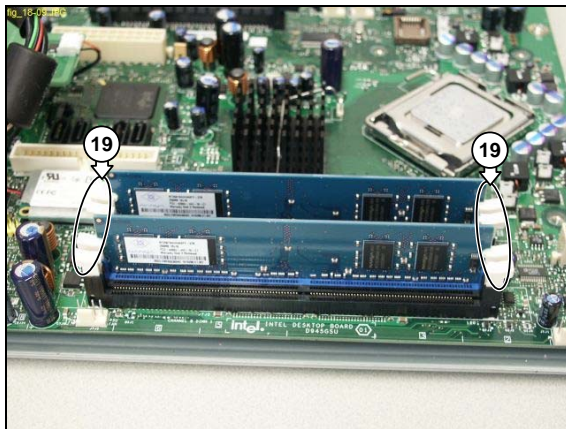

Figure 12.16-10
2. Release the retaining clips (19) on the DIMM connector. See Figure 12.16-10.